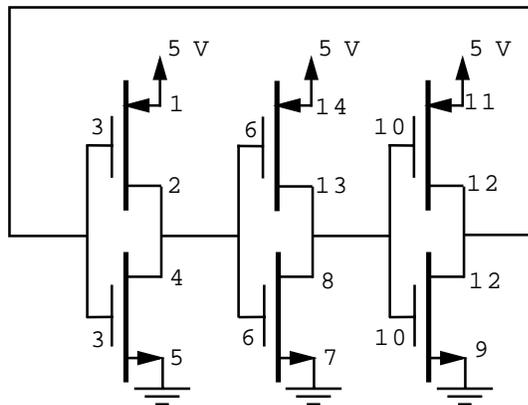

Fig 7
4) Connect the "ring oscillator" circuit in Fig. 7. This is a commonly used circuit to measure the switching time of CMOS gates. It is unstable because it has an odd number of inverters. *At what frequency does it oscillate? What is the switching time of a single gate? Notice there are no resistors. Were they needed in the CMOS circuits used before?*
The circuit in Fig. 7 oscillates at a few MHz because the rise times at each individual inverting gate are relatively fast. By introducing RC filters these rise times can be made much longer. Using this principle, design a ring oscillator that works at about 1 kHz. You can start by putting large resistors from the output of each gate to the input of the next gate. Then add capacitors from the inputs to ground. In order to oscillate, all three stages must have about the same rise times. Draw the circuit. *What time constant did you start with? What time constant led to 1 kHz oscillation? Sketch the waveforms you observe at the different terminals.*